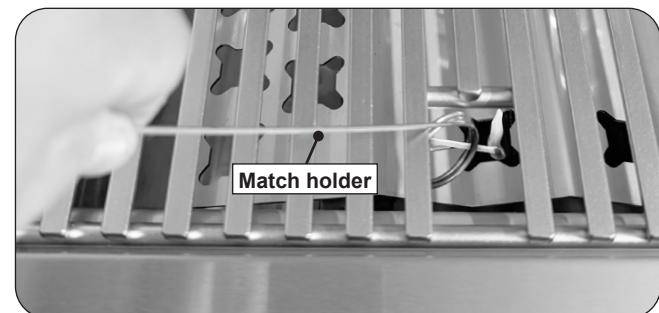

Fig. 33-2 - Manual lighting
**CAUTION:** Always wait five (5) minutes for gas to clear after any unsuccessful lighting attempt.
2. Insert either a burning long-barrel butane lighter, a burning long-stem match, or a burning match held by a wire extension holder through the cooking grids to the burner (Fig. 33-2). For backburners (if equipped), hold the flame against the perforated material of the backburner.
4. If the burner does not light within five (5) seconds of turning the control knob, **immediately depress the knob and turn the valve to OFF**. WAIT FIVE (5) MINUTES before repeating steps 2 through 4 of the MANUAL LIGHTING instructions.